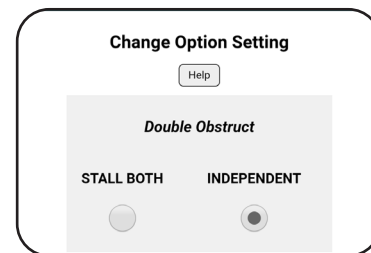

Figure 46
- Double Obstruct = **STALL BOTH** or **INDEPENDENT** (Figure 46)